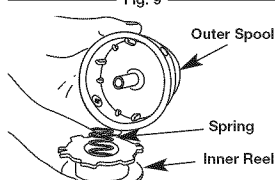

Fig. 10
2. Remove the inner reel from the outer spool (Fig. 10).
3. Remove spring from the inner reel (Fig. 10).
- Remove the old inner reel from the outer spool (Fig. 10).
- Remove the spring from the old inner reel (Fig. 10).